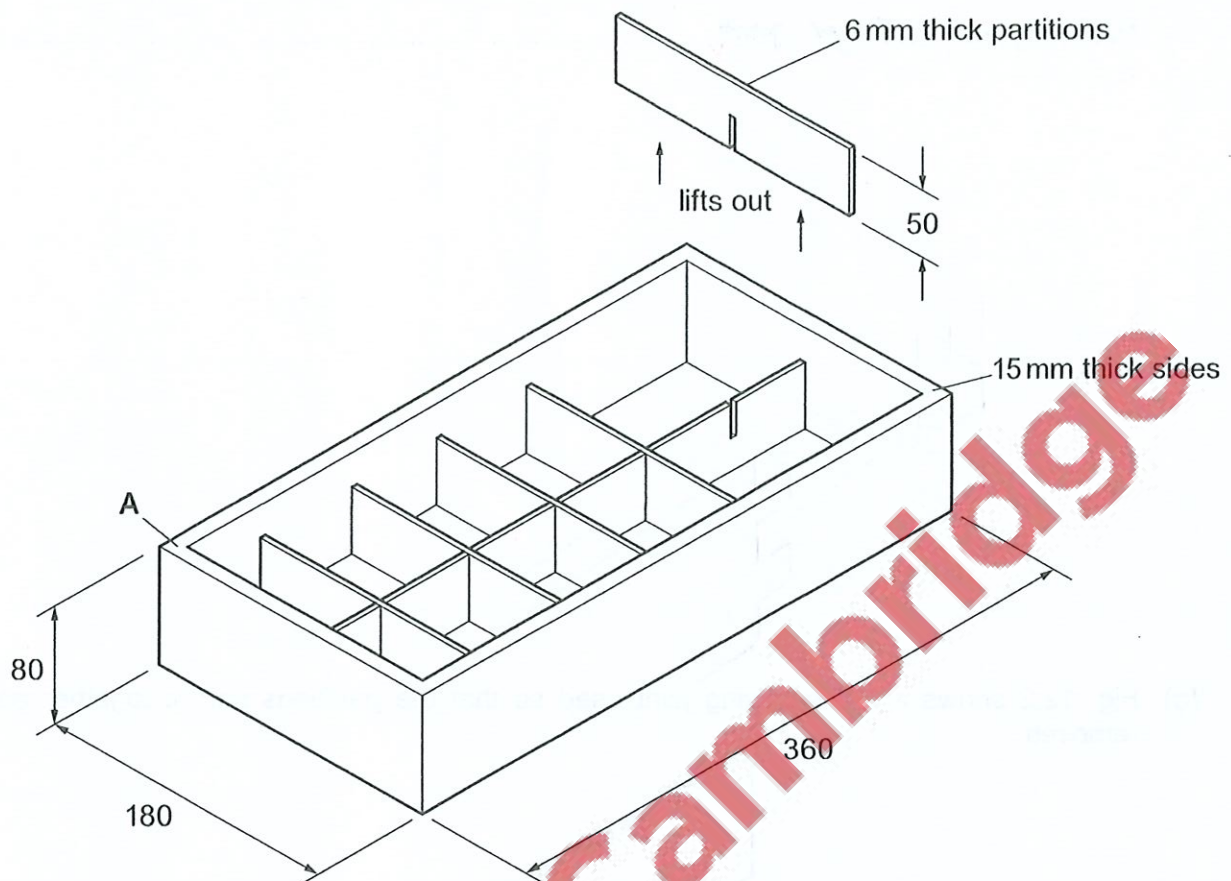

Fig. 12.1
12 Fig. 12.1 shows an incomplete design for a storage box made from wood.
- (e) To complete the design of the storage box in Fig. 12.1 modifications need to be made.